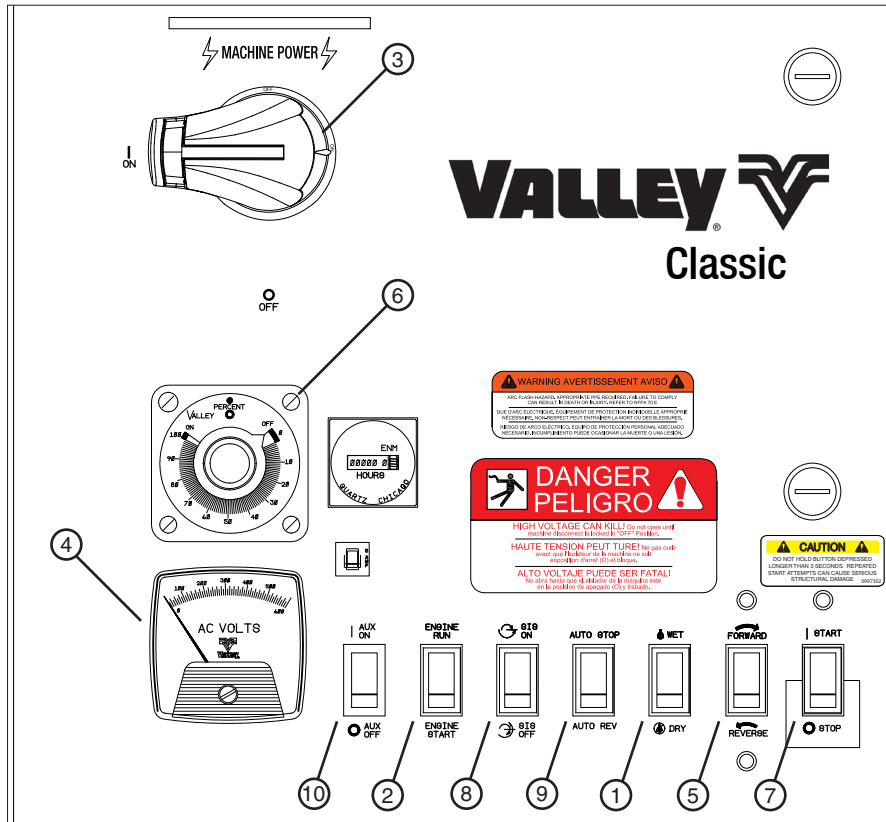

Figure 30-1
2. Place the WET/DRY switch in the DRY position to by-pass the low pressure switch. See Figure 30-1.
3. If an optional engine shutdown circuit is utilized, place the Engine RUN/START switch in the START position. See Figure 30-1.
5. Turn the control panel main disconnect switch to the ON position. See Figure 30-1.
If the power is supplied by an engine driven generator, adjust the RPM of the generator until the voltmeter reads 460 – 505 volts. DO NOT EXCEED 505 VOLTS. See Figure 30-1.
6. Place the FORWARD/REVERSE switch in either the FORWARD or REVERSE position. See Figure 30-1.
7. Set the percent timer to the desired speed setting. See Figure 30-1.
8. Press and hold the START/STOP switch in the START position for 3 seconds and release. The machine should start. See Figure 30-1.
9. Place the Engine RUN/START switch in the RUN position. See Figure 30-1.
10. If the machine is equipped with the optional stop-in-slot mechanism, place the SIS ON/OFF switch in the desired position. See Figure 30-1.
11. If the machine is equipped with auto reverse/auto stop, place the AUTO REVERSE/AUTO STOP switch in the desired position. See Figure 30-1.
12. If the machine is equipped with the optional Auxiliary ON/OFF switch to control an operation or device, place the Auxiliary ON/OFF switch in the desired position. See Figure 30-1.